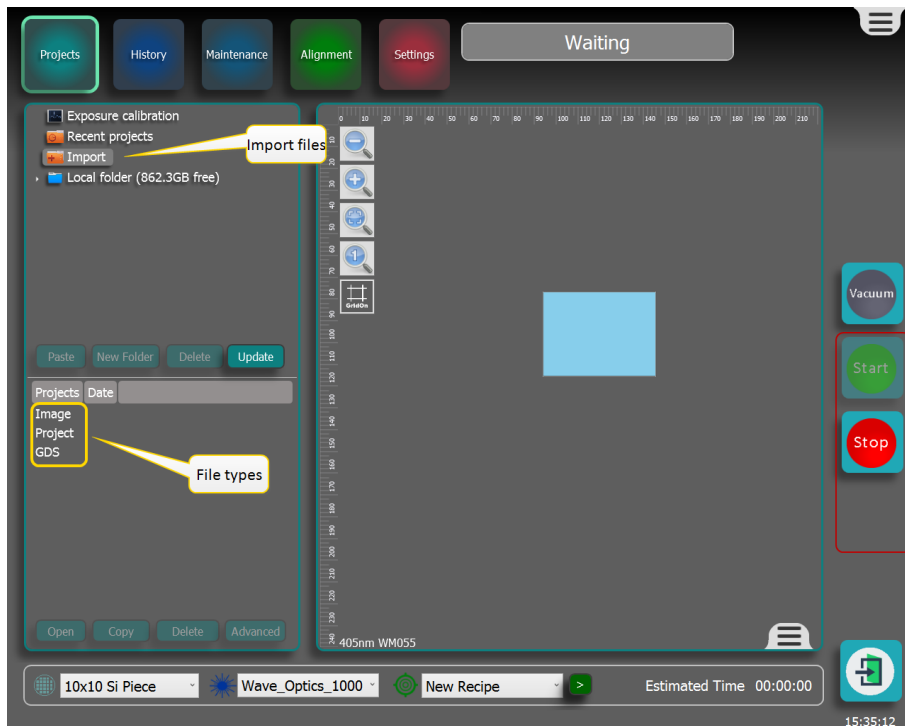

Figure 3-37 Importing a project file
1. Press **Import**, see Figure 3-37.
2. Select the file type, see Figure 3-37.